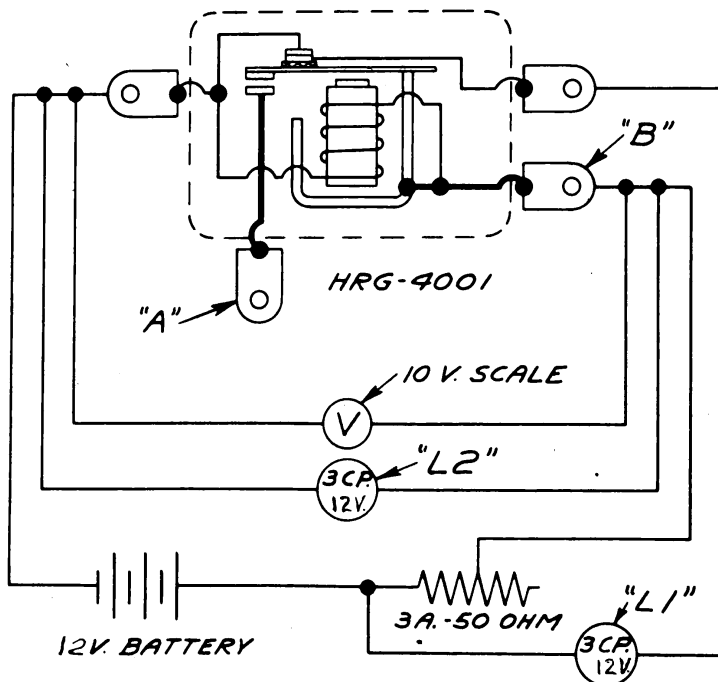

Figure 266. Hook-up for Testing Relays.
C. Connect a six volt battery, variable resistance, voltmeter, and two six volt lamps as illustrated in Figure 266. Insert all the resistance in the circuit. Lamp #1 should be lit. Slowly reduce the resistance noting the voltage just as lamp #1 goes out. This voltage should be between 3.0 and 4.0 volts and is adjusted by bending the lower armature spring hanger. In-
D. With test probes, touch the base of the relay with one probe and each terminal in turn with the other probe. If the lamp lights, it indicates a grounded relay which should be replaced. Touch the two terminals marked "a" and "b" in Figure 266, and holds the armature down. If the lamp fails to light, it indicates an open circuit, and the relay should be replaced.